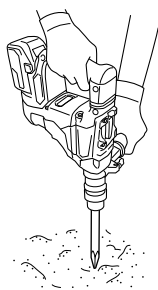

Fig. 14
2. How to chisel or demolish (Fig. 14)